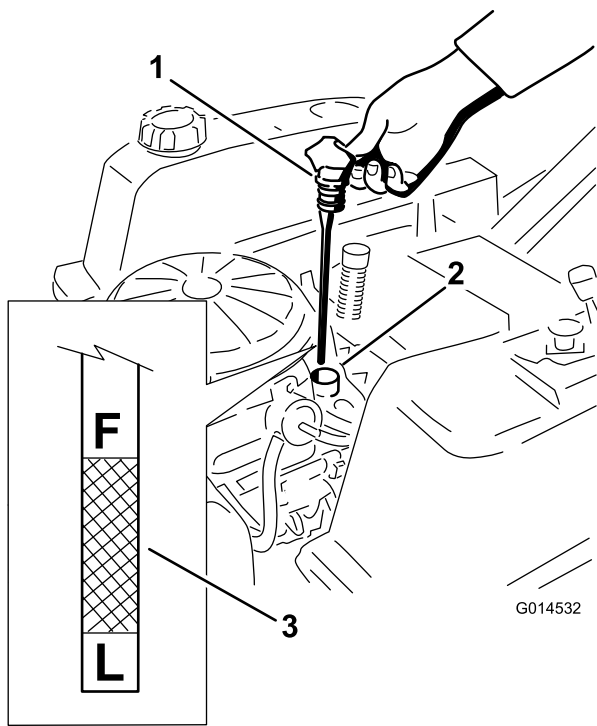
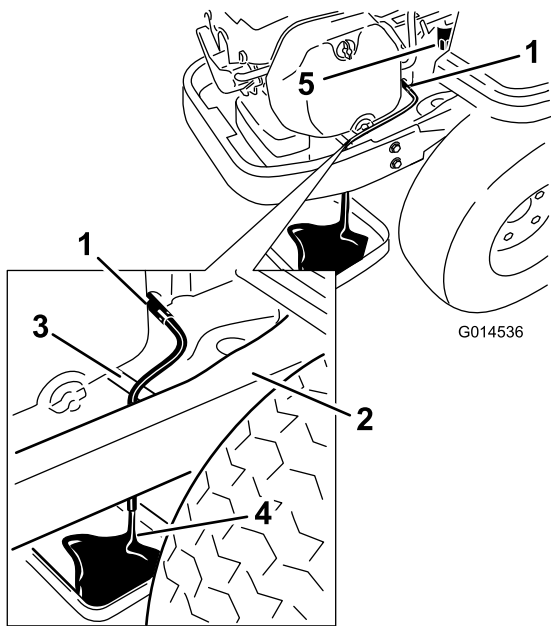

Figure 29
Figure 31
- Remove the dipstick and check the oil level. (Figure 29).
- Place a pan underneath machine directly below the drain hose as shown in Figure 31.
8. Turn the drain valve 1/4 counter clockwise to open and allow the oil to drain (Figure 31). Remove the oil fill cap/dipstick (Figure 29).
10. Remove the old filter and wipe off the mounting pad (Figure 31).
11. When oil has drained completely, close the oil drain valve. Remove the oil drain hose and wipe up any excess oil on the frame (Figure 31).
15. Slowly pour approximately 80% of the specified oil into the filler tube (Figure 29).
16. Install the oil fill cap/dipstick and push firmly into place (Figure 29).
17. Check the oil level (Figure 29); refer to Checking the Oil Level.
19. Install the oil fill cap/dipstick and push firmly into place (Figure 29).